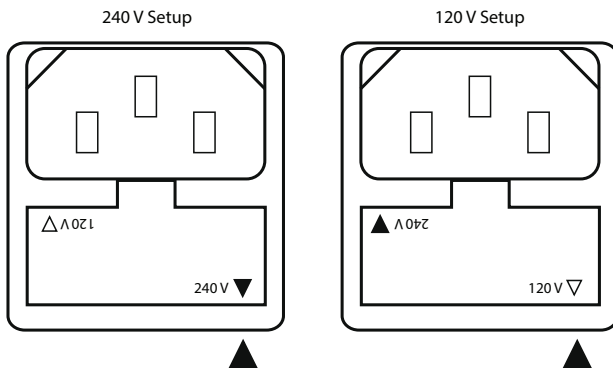
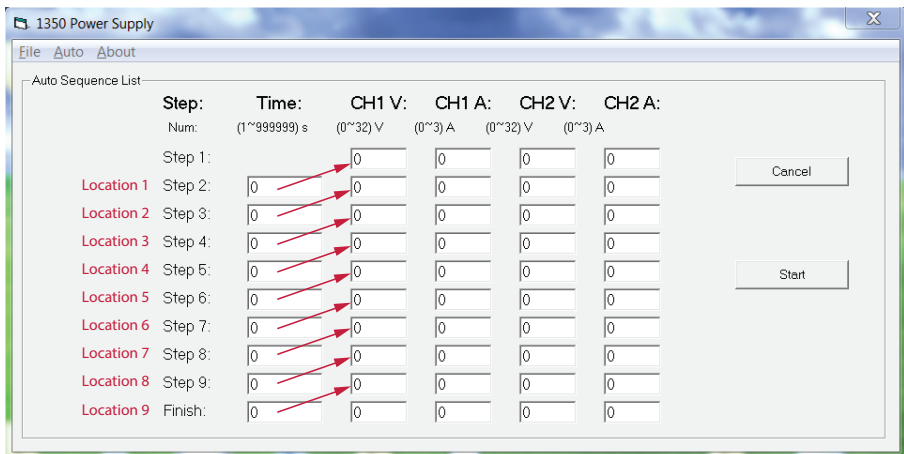

Figure 4. Fuse Selector
Figure 5. List Mode
The input power voltage indicator is a black arrow ▲ on the rear panel near the AC input connector. See Figure 3, number 30. The fuse holder (Figure 3, number 31) has both a smaller white arrow ▽ (120 V) and a smaller black arrow ▼ (240 V) on it. The fuse holder should be rotated so that the fuse holder arrow of the appropriate voltage is pointing to the larger black input power voltage indicator arrow. See Figure 4.
6. The output is set to “Off” as in Figure 4. Click the On/Off to start output as in Figure 5. Clicking it again will return to “Off” position.